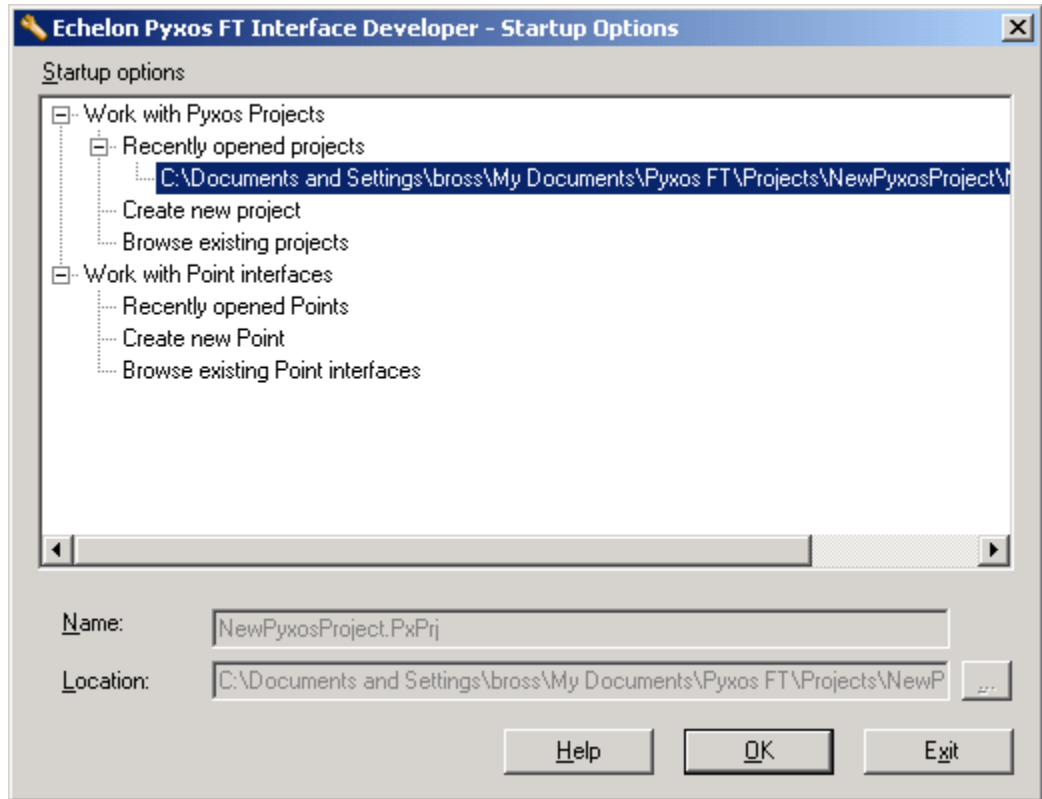

Figure 5 Pyxos FT Interface Developer – Startup Options
1. From the **File** menu, point to **New** and then click **Point Interface Definition** (or, click **Add Point**). You will be prompted to save the project files you have created, and then you will return to the Pyxos FT Interface Developer – Startup Options dialog shown in Figure 5.